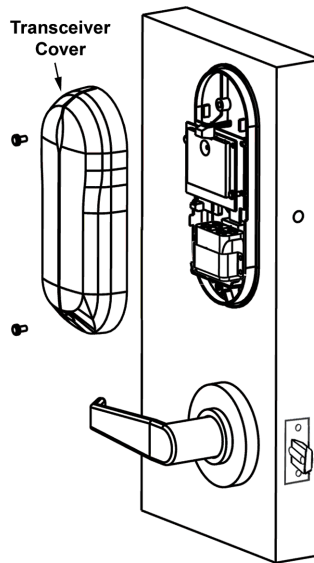

Figure 2-48 – MIRL Transceiver Cover
- 2.19.3 Install the MIRL Transceiver Cover and fasten with two secure T-10 TORX Transceiver Cover Mounting Screws (6-32 x 3/8") using the T-10 TORX L-key that is provided (Figure 2-48).